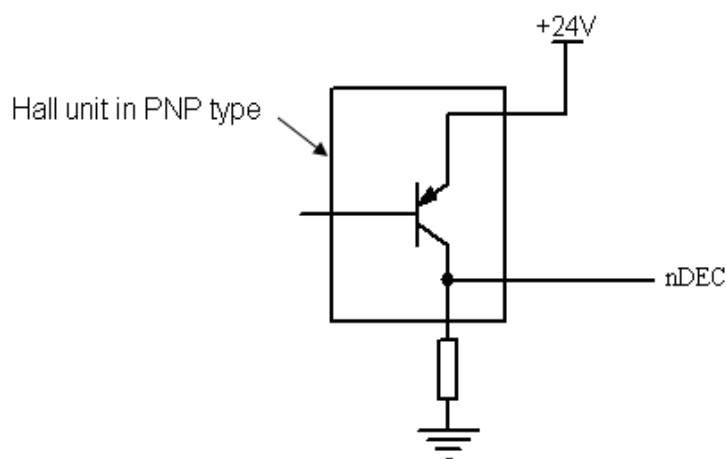

Fig. 2-10 Connection with Hall unit in PNP type
c): Refer to the following Fig. 2-10 about the connection method of taking one Hall unit in PNP type as one deceleration signal: